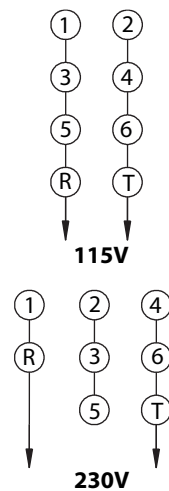

Figure 5 – Grinder Motor Wiring Diagram
9. Rewire grinder motor to 230 volts (See Figure 5).